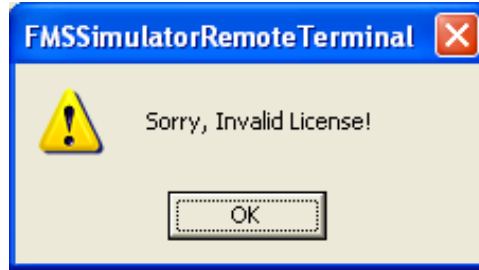

Figure B-4
5. Au FMS Simulator License Toolset will check if entered license number is valid or not. If not, "Sorry, Invalidate license!" will show up, click OK (Figure B-4).